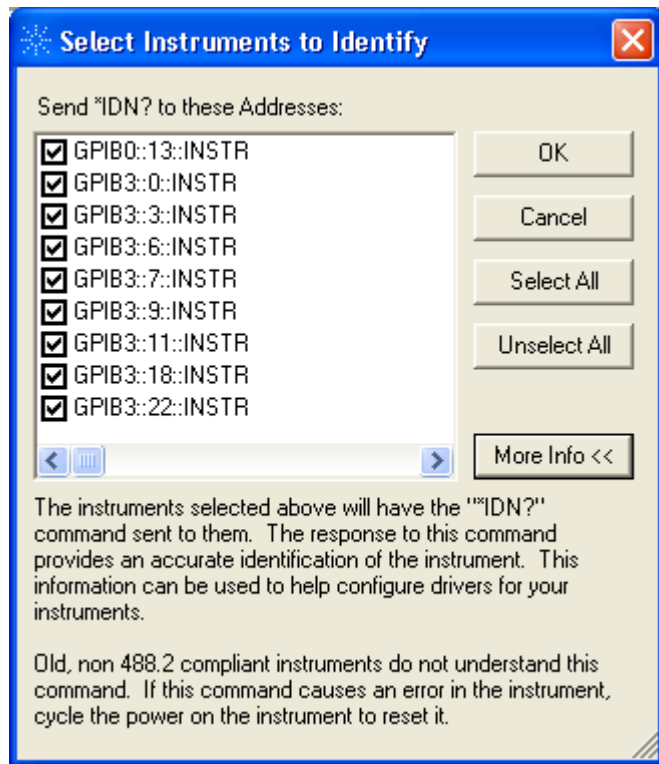

Figure 3 Using *IDN? with 488.2 Compliant Instruments
- a Select the addresses you want to query with an *IDN?. See Figure 3. Select **OK**.